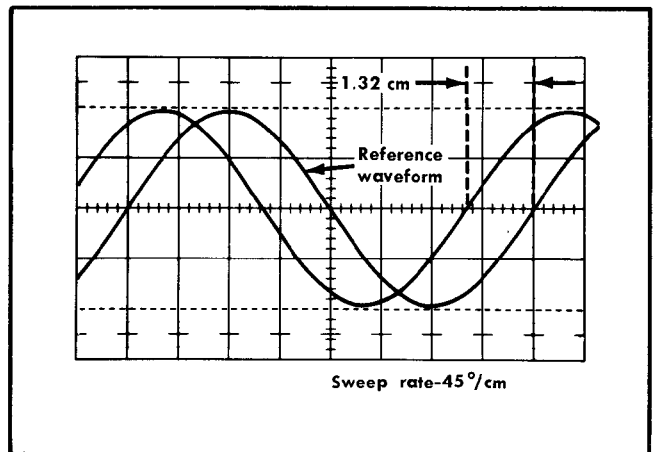

Fig. 2-24. Double exposure photograph of crt display used for making a phase-angle measurement between two signals (see text).
5. Adjust the Time/Cm VARIABLE control so that one cycle of the waveform covers exactly 8 cm of the graticule (to calibrate the sweep at $45^\circ/\text{cm}$). At the same time, adjust the TIME POSITION control so the waveform rise crosses the horizontal centerline at the 1-cm and 9-cm vertical graticule lines (see Fig. 2-24).
For example, Fig. 2-24 shows phase comparison between two 10-Mc sine waves. The horizontal deflection of 1.32 cm multiplied by $45^\circ/\text{cm}$ gives a phase difference of 59.5° . The first (reference) waveform in this example lags the second waveform by 59.5° , since it lies to the right in the display.